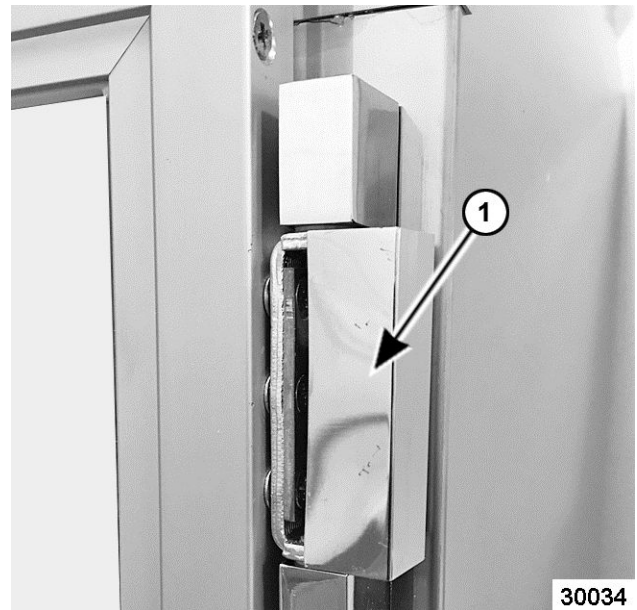

Fig. 22
1. Remove door hinge covers (1, Fig. 22) from lower and upper door hinge.